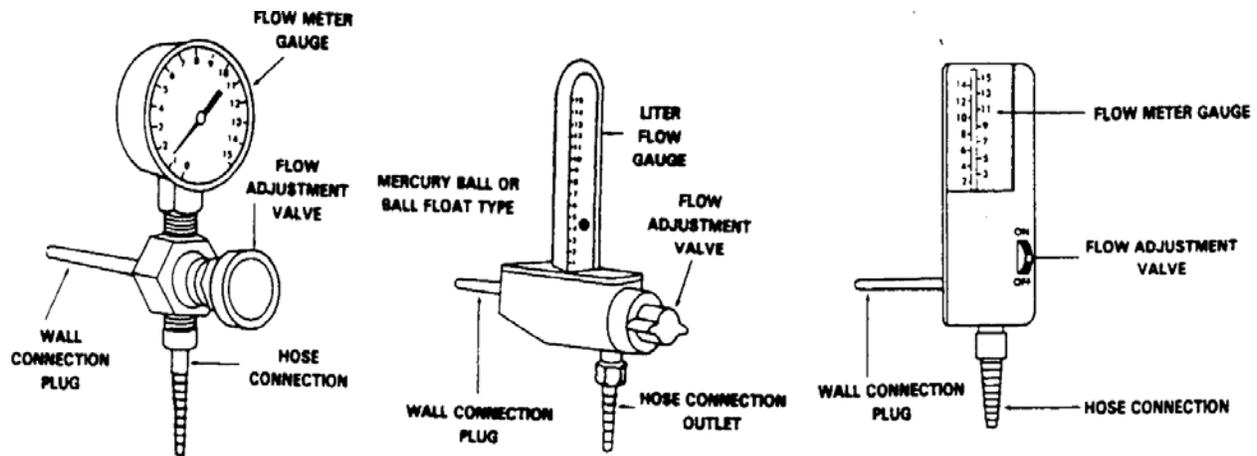

Figure 3-15. Flow meters for wall oxygen setups.
(1) Flow meter. Oxygen flows through the pipeline at a low pressure, usually 50-60 pounds per square inch. A flow meter (figure 3-15) must be attached to the wall outlet to control the flow of oxygen to the patient.
(2) Humidifier. The humidifier prevents drying and irritation of the patient's mucous membranes by adding moisture to the oxygen being inhaled.